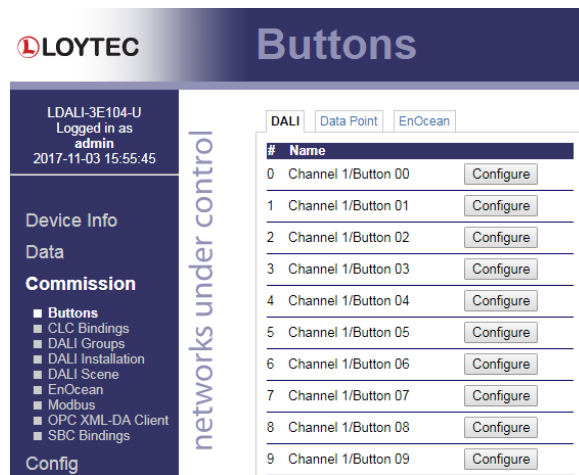
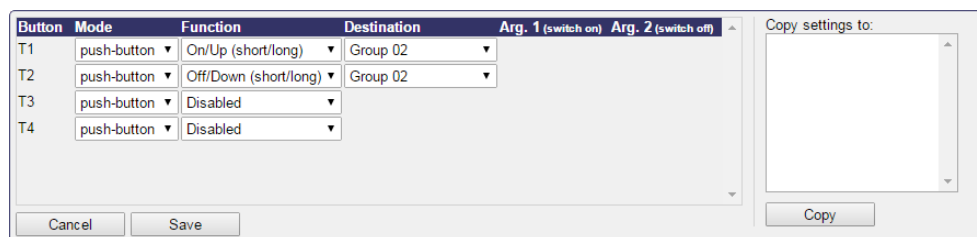

Figure 49: Button Functions.
Figure 50: Configure DALI button functions.
1. On the **Buttons** page, stay on the **DALI** tab (see Figure 49) and click on the **Configure** button next to the button device that is to be configured. The dialog shown in Figure 50 appears.